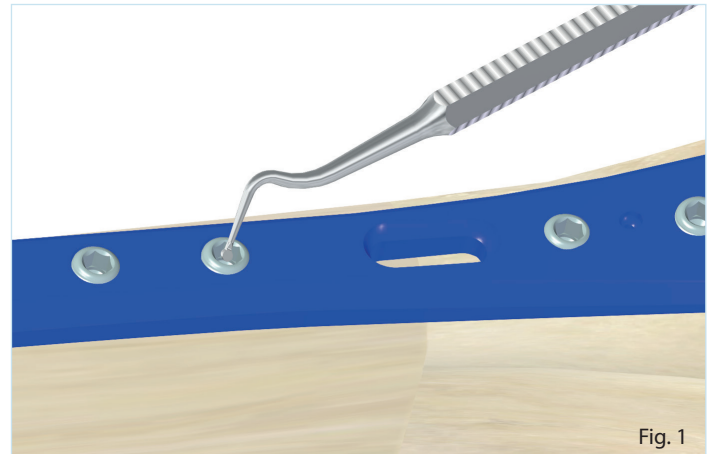

Fig. 1
– Screw hexagon must be properly free of in-grown tissue (Fig. 1). Proper cleaning is necessary for correct insertion of a screwdriver.